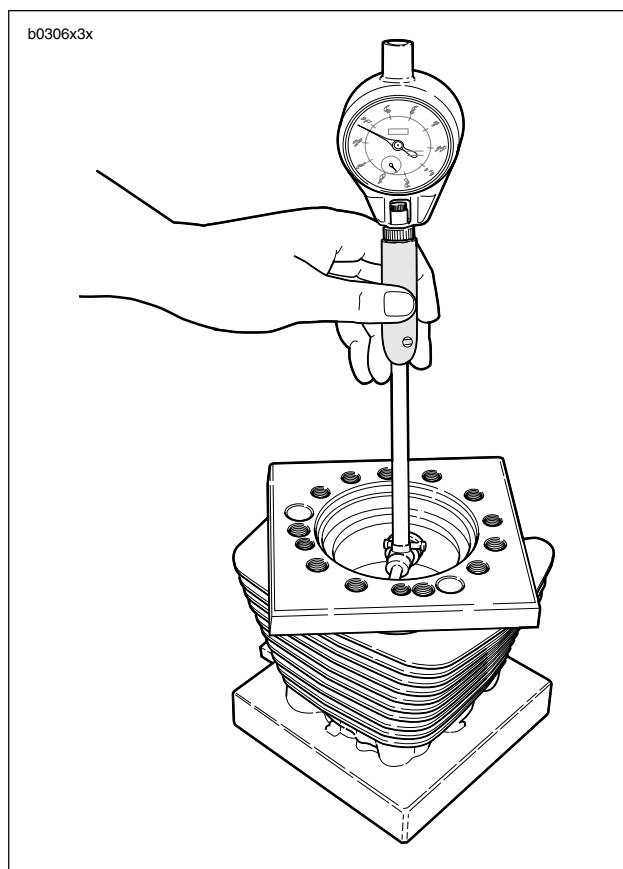

Figure 3-74. Measuring Cylinder Bore Using Torque Plates (Part No. HD-33446A)
2. See Figure 3-74. Install a head gasket, base gasket and O-rings, and CYLINDER TORQUEPLATES (Part No. HD-33446A) and XL EVOLUTION TORQUE PLATE BOLTS (Part No. HD-33446-86). Tighten the bolts using the same method used when installing the cylinder head screws. See 3.5 CYLINDER HEAD.
3. See Figure 3-74. Take cylinder bore measurement in ring path, starting about 0.50 in. (12.7 mm) from top of cylinder, measuring from front to rear and then side to side. Record readings.